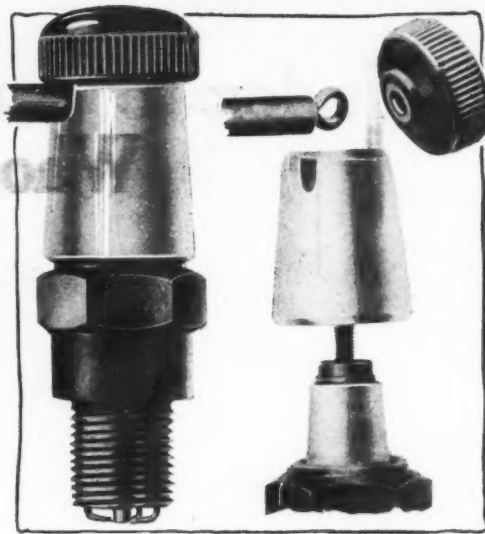

Fig. 4—Watertight Bosch plug
**Watertight Bosch Plug**—The latest product of the Bosch Company is the plug, Fig. 4, in which the outer terminal connection is entirely inclosed by a fireproof insulator in such a way that not only are the live parts protected from accidental contact but also from the entry of water. The tapered terminal insulator is made from Steatite, the same material that is used for the plug insulator proper. It is provided with a groove on its upper edge into which the covered wire connection is forced by the insulated terminal nut.